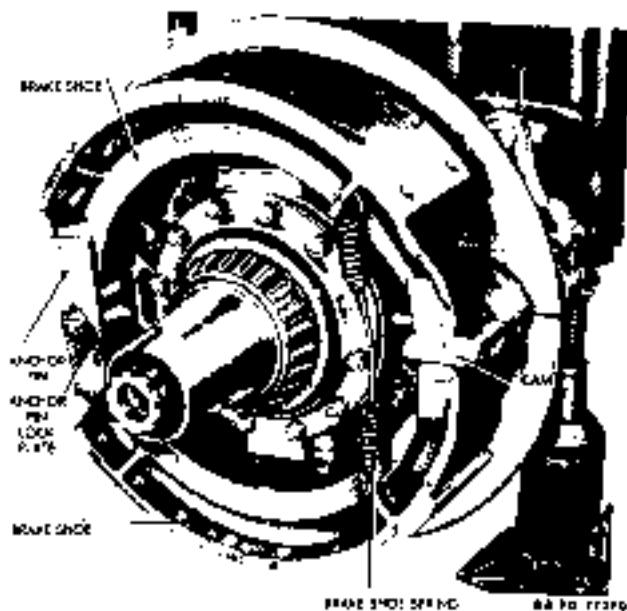

Figure 76 — Front Brake Shoes Installed
(1) **DESCRIPTION** (figs. 76 and 77). Two brake shoes are attached to a backing plate inside each of the four brake drums. Two anchor pins hold adjacent ends of shoes in place. The opposite ends of shoes are pulled together by a brake shoe spring. A cam, located between these ends, pivots when brakes are applied, and pushes ends of shoes apart. This presses lining riveted to shoes against brake drum, creating a braking action. When the brakes are released, the cam pivots back to its original position, and the brake shoe spring draws the shoes toward each other.
- (3) REMOVE BRAKE SHOE SPRING (figs. 76 and 77). Use slack adjuster to turn camshaft until shoes are at lowest point on cam. Slide brake shoe spring from holes in shoes. NOTE: Rear wheel brakes have two springs.
- (4) REMOVE ANCHOR PIN LOCK PLATE (figs. 76 and 77). Remove cotter pin and stud nut which hold lock plate on pins, and lift plate from pins.
- (5) REMOVE SHOES (figs. 76 and 77). Pull both shoes from anchor pins.
- (1) ATTACH SHOES TO ANCHOR PINS (figs. 76 and 77). Position shoes on anchor pins. Position lock plate on pins and shoes, and install stud nut and cotter pin which secures lock plate to pins.
- (2) INSTALL BRAKE SHOE SPRING (figs. 76 and 77). Pull free ends of shoes together, and insert spring and clips through holes in brake shoes. Install two springs on rear wheel brake.
- (3) INSTALL HUB AND WHEEL (pars. 133 and 134).
- (4) ADJUST BRAKES (par. 126).